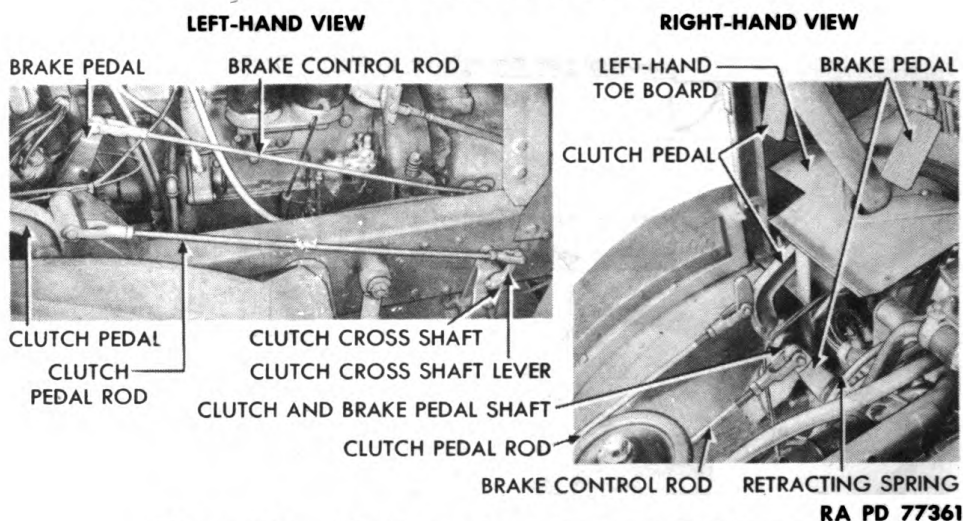

Figure 82 — Clutch and Brake Pedal Linkage
(1) **REMOVE TOEBOARD** (fig. 82). Remove screws and toothed lock washers which hold left-hand toeboard in position. Lift floor board from cab.
(2) **DETACH PEDAL** (fig. 82). Disconnect retracting spring from pedal. Remove cotter pin and clevis pin which attach brake control rod to pedal. Drive taper pin from clutch and brake pedal shaft.
(2) **ATTACH PEDAL** (fig. 82). Slide pedal and pedal shaft collar onto protruding end of clutch and brake pedal shaft. Drive taper pin through holes in collar and shaft. Peen pin. Place yoke of brake control rod in position about its flange on pedal and install clevis pin and cotter pin. Hook retracting spring into its hole in pedal. Inspect end of spring and bend if necessary to make sure it remains in position in pedal.
(3) **INTALL TOEBOARD** (fig. 82). Place toeboard in position and install toothed lock washers and screws which secure it.